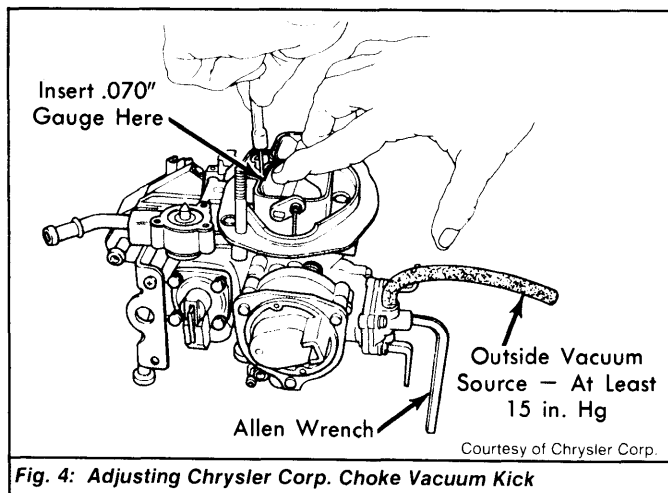

Fig. 4: Adjusting Chrysler Corp. Choke Vacuum Kick
3) Using specified drill or pin gauge, measure clearance between upper edge of choke valve and air horn wall at primary throttle end of carburetor. See Fig. 4.